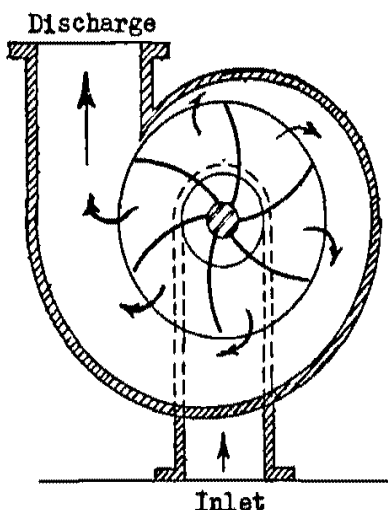

Fig. 7 - Centrifugal Pump
2. Centrifugal Pumps: This type pump is one in which an impeller operating on a shaft within a housing forces water to a discharge point by centrifugal action. The impeller is a device with many curved blades extending from a central shaft on which it is mounted. This impeller revolves at high speed within a specially designed housing. The water entering on one or both sides near the shaft is trapped between the blades and is thrown outward by centrifugal force so that it escapes from the discharge point under pressure. See Figure 7. The pump may be a single stage and consist of one unit, or multiple stage in which case several units are placed side by side to increase the pressure at the discharge point.